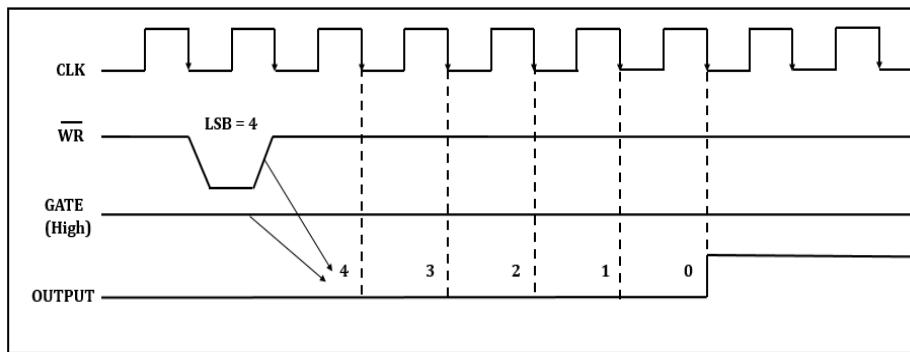

Figure 3.11: Mode 0 Timing Diagram.
- On Terminal Count (TC) the OUT Pin goes high, and remains high.
- Figure 3.11 shows the Mode 0 Timing Diagram.